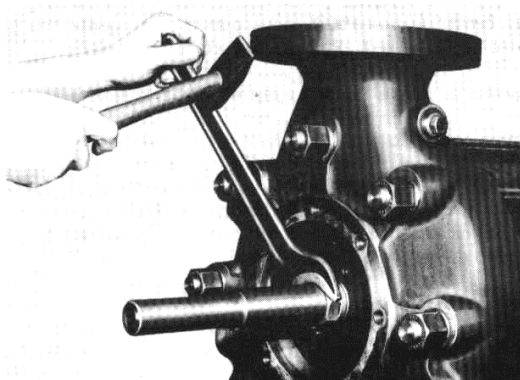
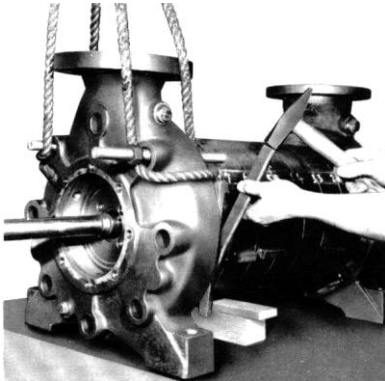

Fig. 57 - Slackening shaft protecting sleeve (524.2)
Fig. 59 - Forcing off the stage casing
3. Slacken shaft protecting sleeve (524.2) and remove it from shaft (210) (see Fig. 57).
2. Unscrew nuts (920.1) at discharge end of tiebolts (905) and pull the tiebolts out of the suction and discharge casings (see Fig. 57).
3. Underpin the pump at the stage casing (108) with wooden blocks or an erection trestle; so as to free the component, which is to be dismantled next.
4. Force discharge-casing (107) together with final stage diffuser (171.2) off stage casing (108) and lift it off (see Figs. 59 and 60).